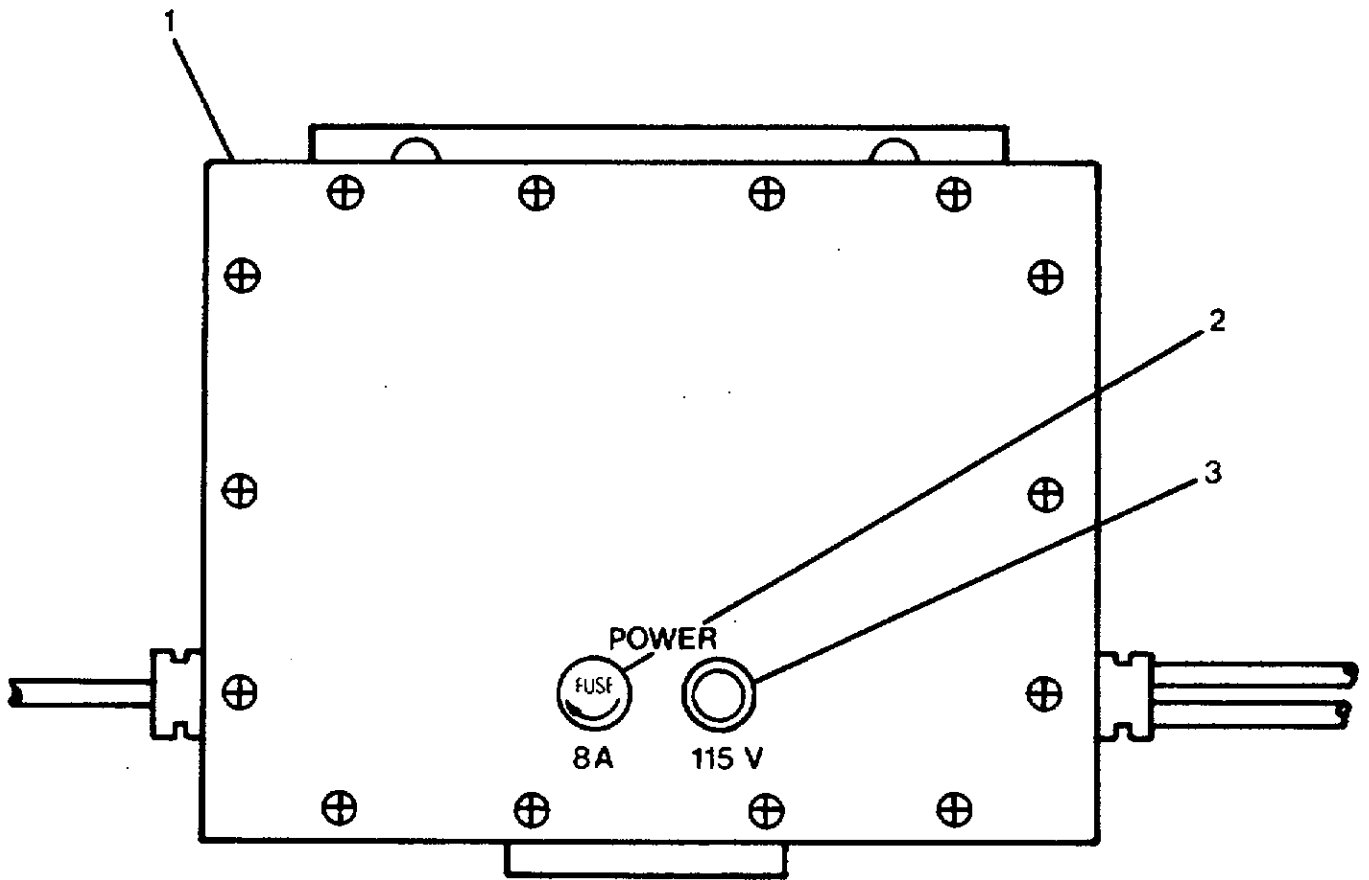

FIGURE 2-19. Power Converter Lamp and Fuse Replacement.
2-25. Repair Power Converter. (FIGURE 2-19)
- (1) On pilothouse IC/ELEX panel, set circuit breaker No. 1 (MK 27 GYRO PWR CONV UNIT) to OFF. Tag "Out of Service, Do Not Operate."
- (2) On pilothouse dc panel, set circuit breaker No. 1F (GYRO PWR TRANSF UNIT) to OFF. Tag "Out of Service, Do Not Operate."
- (3) On power converter (1, FIGURE 2-19) remove lampholder lens (3) by turning counterclockwise.
- (3) On power converter (1, FIGURE 2-19) remove 8A fuse cartridge by pushing in on fuseholder cap (2) and turning counterclockwise.